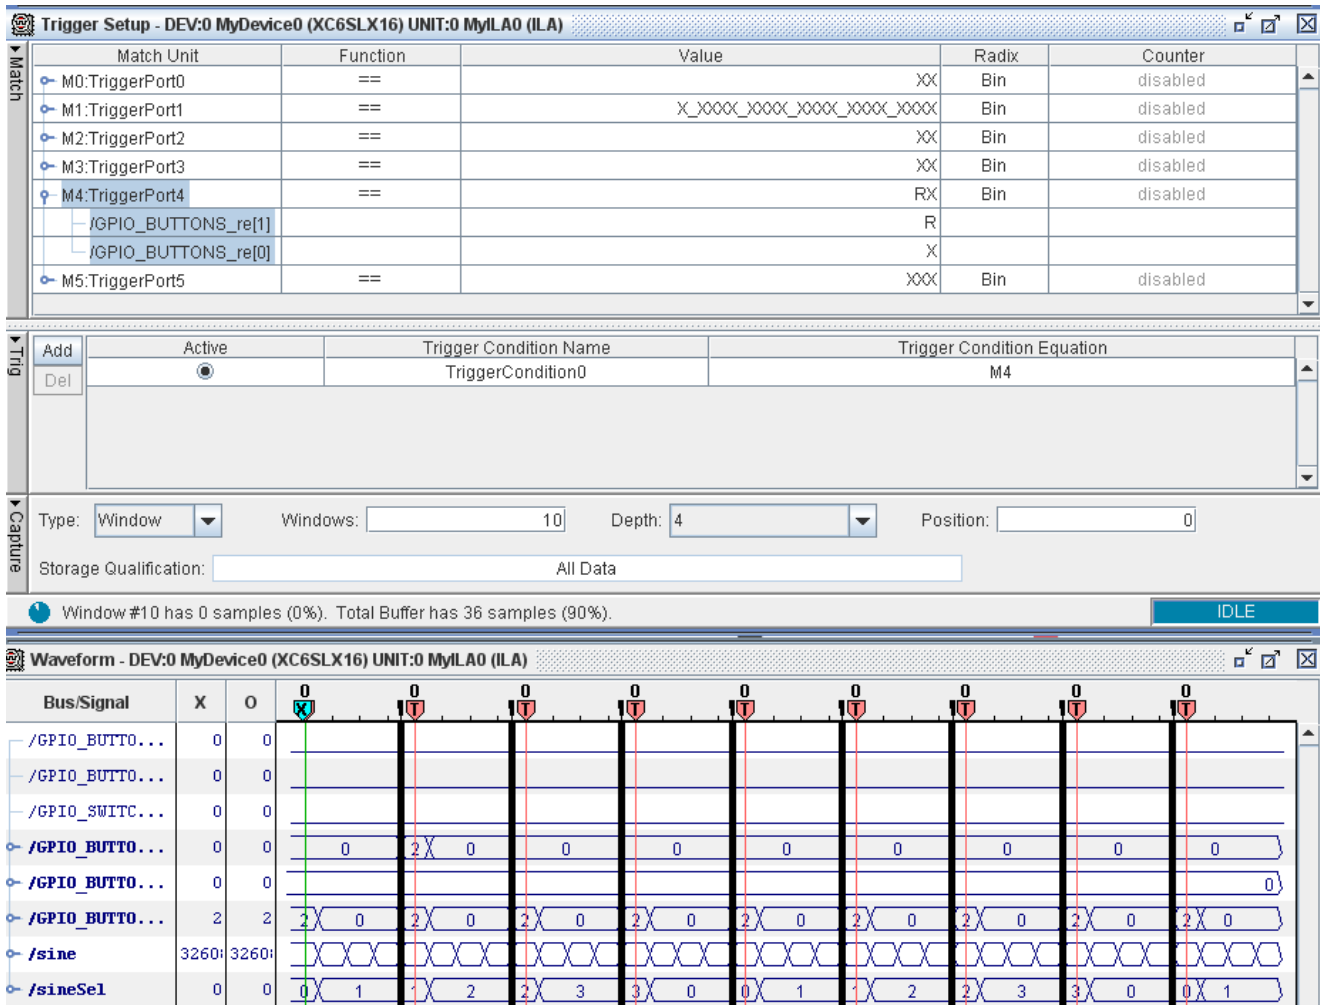

Figure 8: Sample View of Display Setting and State Machine Glitch
3. In the **Trigger Conditions** area of the **Trigger Setup** window, click inside the **Trigger Condition Equation** field. In the resulting dialog box, ensure that the appropriate match unit is enabled. You can tell that the correct match unit is enabled if it is highlighted in blue, as shown in Figure 8, page 18.
- In the **Capture** area of the **Trigger Setup** window, shown in Figure 8, change the settings as follows:
3. Push the *Sine Wave Sequencer* button on the SP601 board. Observe the number of windows being captured in the status bar that appears just below the capture settings. (The status bar is shown in Figure 8, page 18.) If more than one window is captured with a single push of the button, you have determined that there is an issue on the `GPIO_BUTTON[1]` input. If only one window is captured, try again. You might have to push the button several times to reproduce this intermittent glitch.